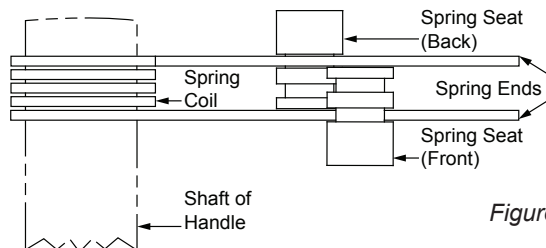

Figure 4
2. Release the spring tension by removing the spring ends from the spring seats. (Fig 4)
9. Re-set the tension in the spring by compressing the spring ends and position them in the correct groves on the spring seats. (Fig 4)